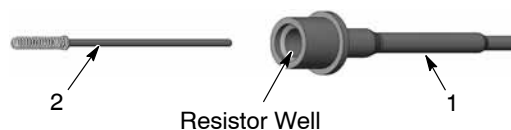

Figure 27 Removing the Resistor from the Holder
8. See Figure 27. Remove the resistor (2) from the resistor holder (1).
1. See Figure 27. Inject approximately 0.60 cc of dielectric grease into the resistor well.